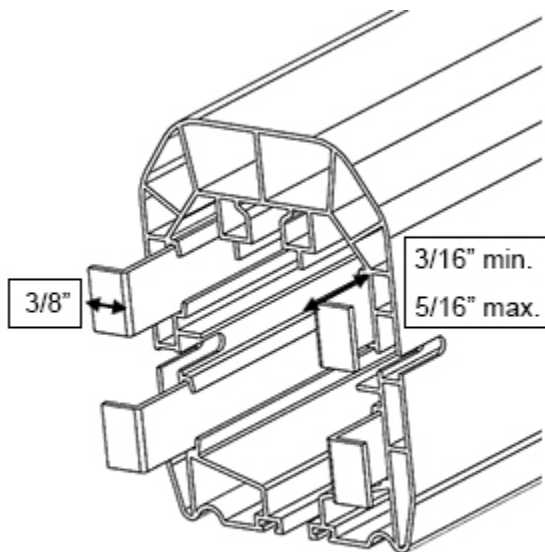

Figure 35: Conductor Placement (20-130 A)
5. Push the conductors back in as far as they will go, measure 1/4" from the cut PVC edge, and bend each conductor away from the center of the part (Figure 35). The conductors should have 3/16"-5/16" play inside the extrusion when this is done, and not should be able to pull inside the extrusion.
6. Trim excess conductor, leaving a 3/8" tab (Figure 35). Make sure that the tabs fit properly under the end cover.